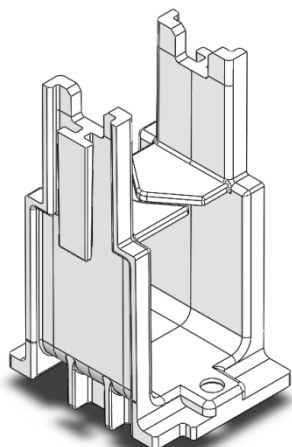

Figure 9
1.1.8 After attachment of the modules to the wall, insert the plastic expansion piece Fig. 9.